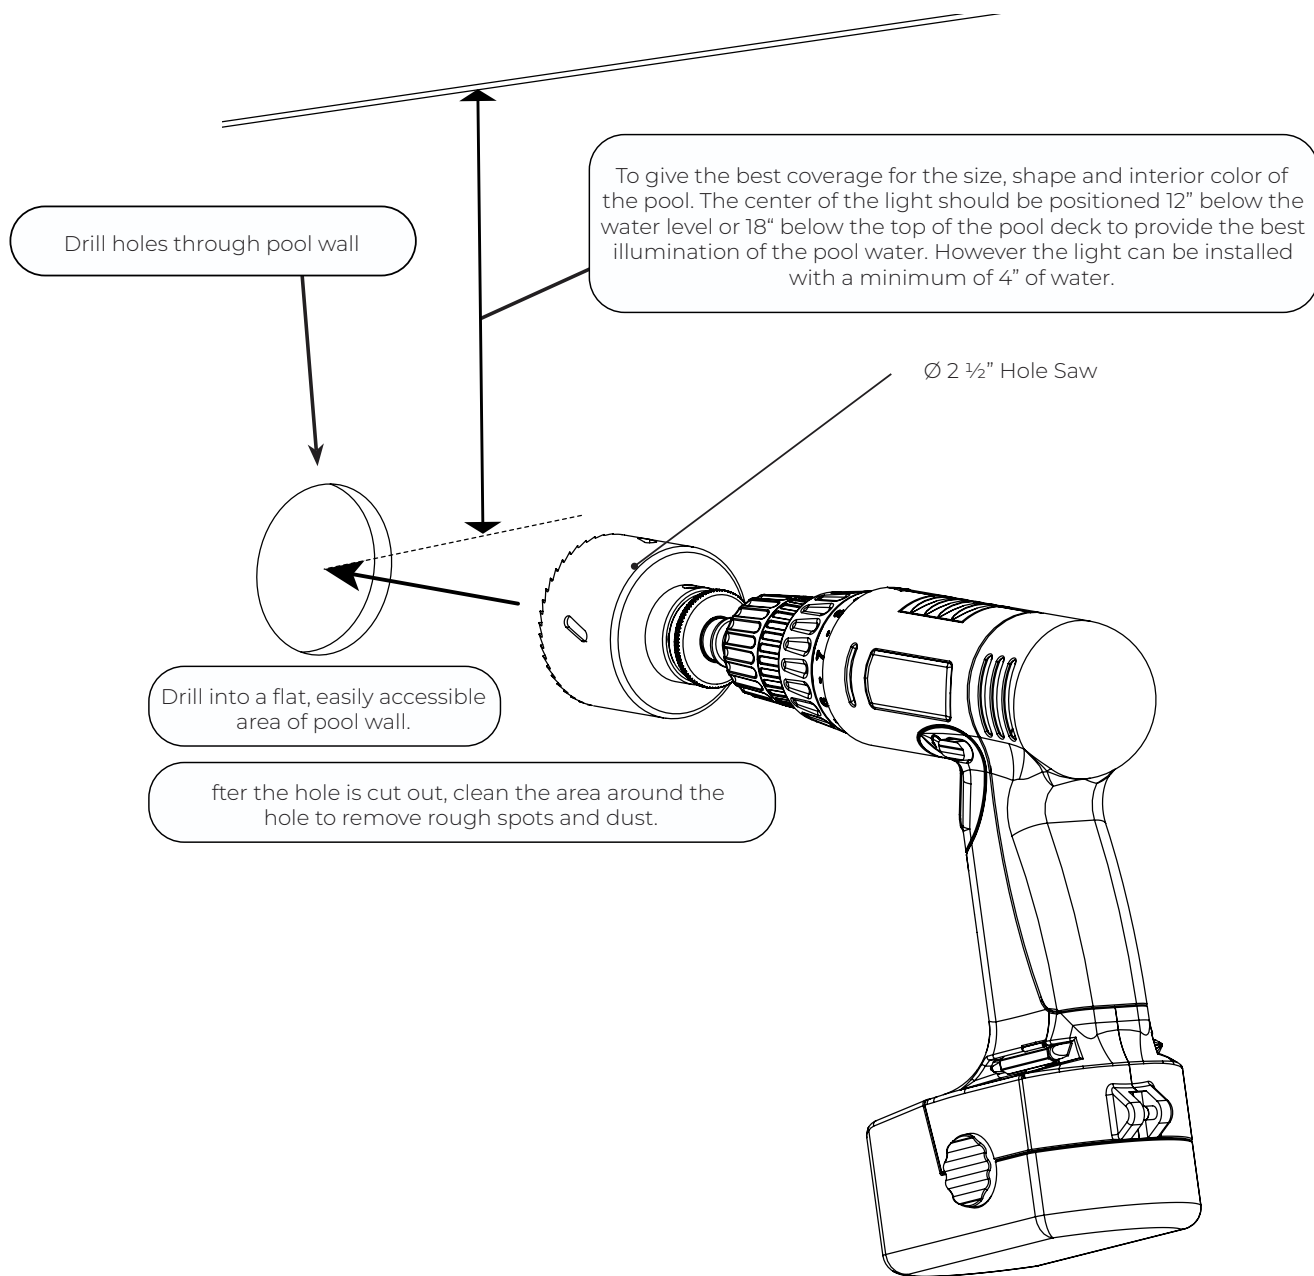

FIG. 5
1. Cut hole in pool shell (FIG. 5).and install the wall fitting as per manufacturer guidance. Follow the instructions from Section 3.2 for light installation.